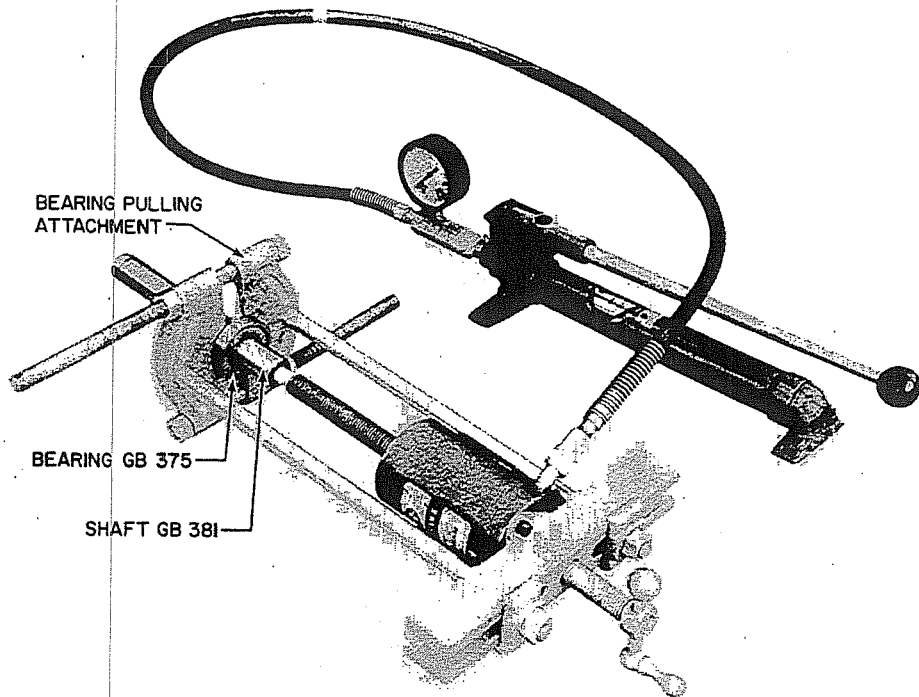

Figure 30. 1 to 1 Shaft, Removal of Bearing GB375
- L. Secure the bearing pulling attachment behind the inner race of Bearing GB375. The bearing will be removed as pressure is applied to Shaft GB381 (figure 30).